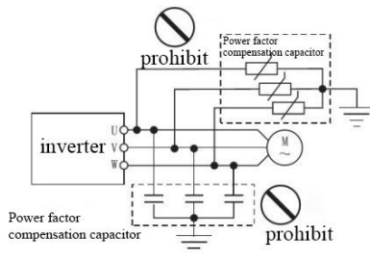

figure 1-3
- Since the output voltage of the inverter is a PWM pulse wave, please do not install a capacitor or surge current absorber (such as a varistor) at its output end, otherwise it will cause the inverter to malfunction and trip, or even damage the power components. . If it has been installed, be sure to remove it. See Figure 1-3 .